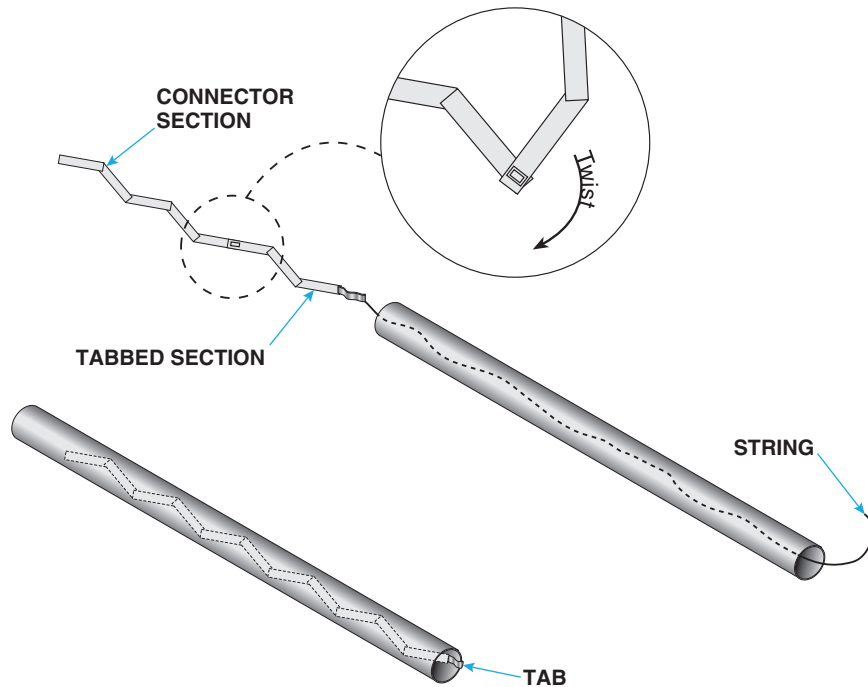

Figure 7. Turbulator Installation
- Interlock turbulator sections as shown in Figure 7 and slide assembly into extension tube. String may be used as shown to position turbulator.
- Fold tab around downstream end of tube as shown in Figure 7 to secure turbulator.